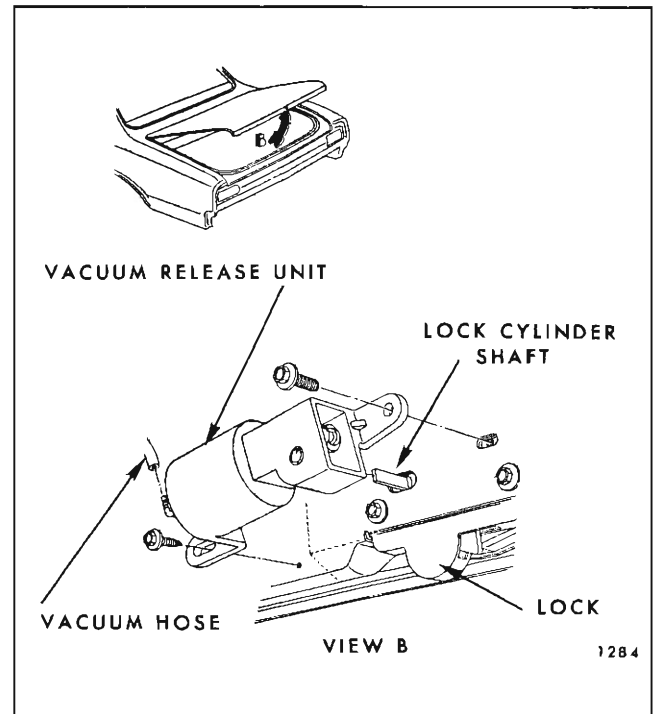

Fig. 2F12—Rear Compartment Lid Vacuum Release Unit
2. Remove cable support clip attaching screw (clip "A" in Fig. 2F13) and move cable toward left side of body to enable disengaging spring retaining clip "B".